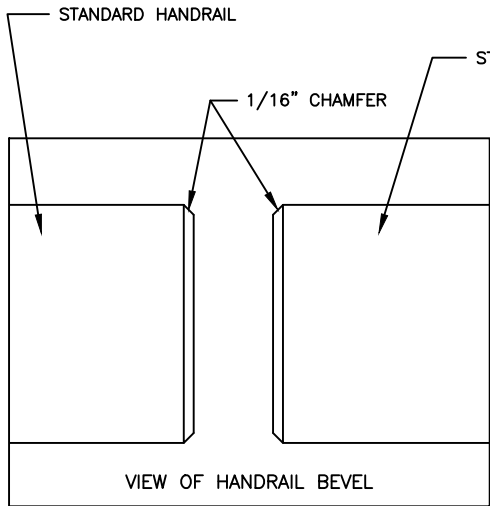

FIGURE 3.
3. EASE WOOD EDGES ON CUT HANDRAIL END SLIGHTLY WITH 150 GRIT SANDPAPER (SEE FIGURE 3) TOUCH UP SANDED EDGES WITH STAIN PENCIL.
1. EASE WOOD EDGES SLIGHTLY WITH 150 GRIT SANDPAPER (SEE FIGURE 3). TOUCH UP SANDED EDGES WITH STAIN PENCIL.